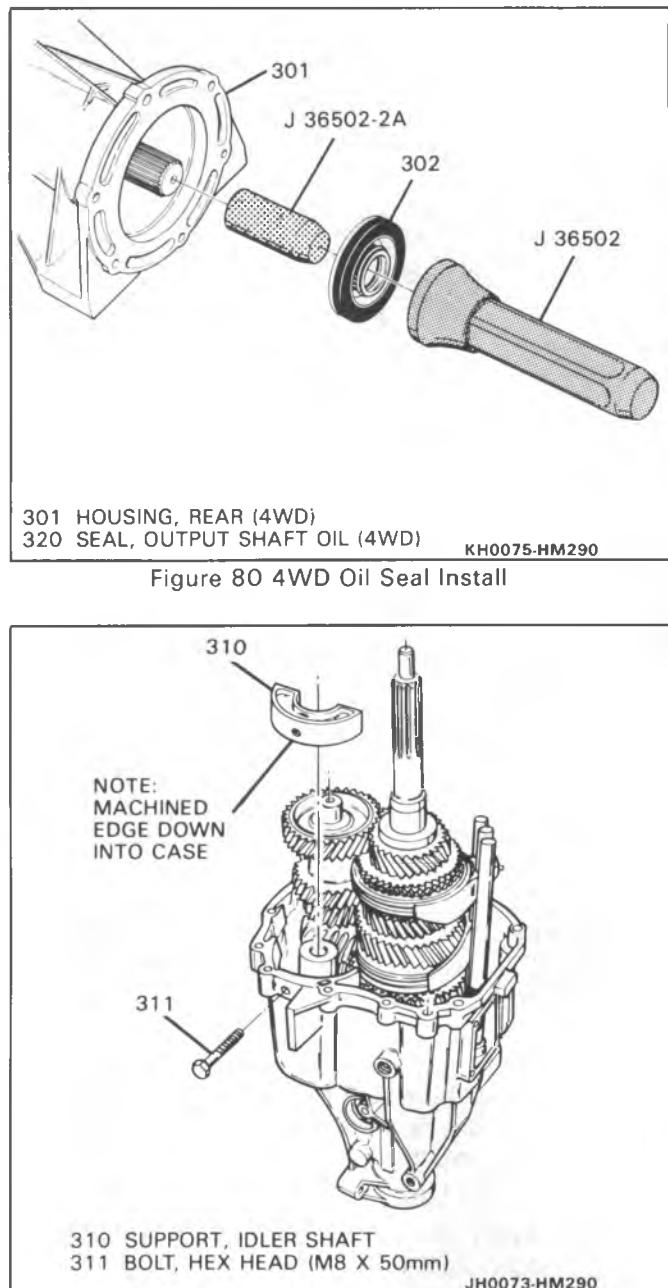

Figure 80 4WD Oil Seal Install
21. 4WD ball bearing (outer) race (38).
22. 4WD threaded thrust rings (39) and (41). Refer to page 42, steps 7 through 11 for assembly procedures.
23. 4WD output shaft oil seal (320) using J 36502 (Figure 80).